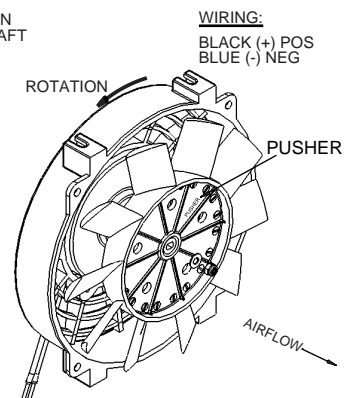

FIGURE 5
3. After seating blade, replace lock nut by turning clockwise. Pusher configuration should look as shown in figure 5.